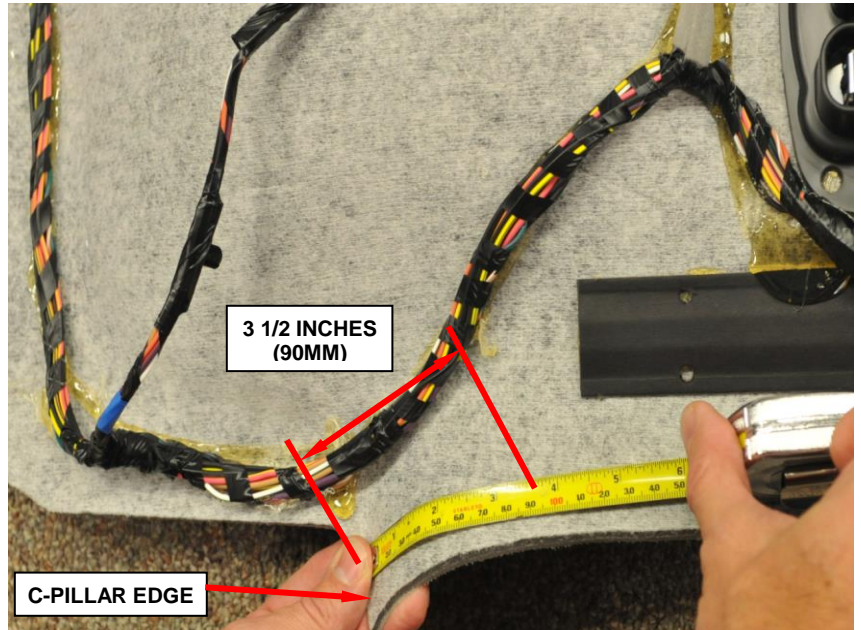

Figure 30 – Mark 3 ½ inches (90mm) Location on Headliner
1. On the right side of the headliner, measure 3 1/2 inches (90mm) from the C-Pillar edge of the headliner and mark the headliner for the rear edge of the foil patch (Figure 30 and 31).
2. Measure 3/8 inch (10mm) from the outer edge of the headliner and mark the headliner for the outboard edge of the foil patch (Figure 30 and 31).